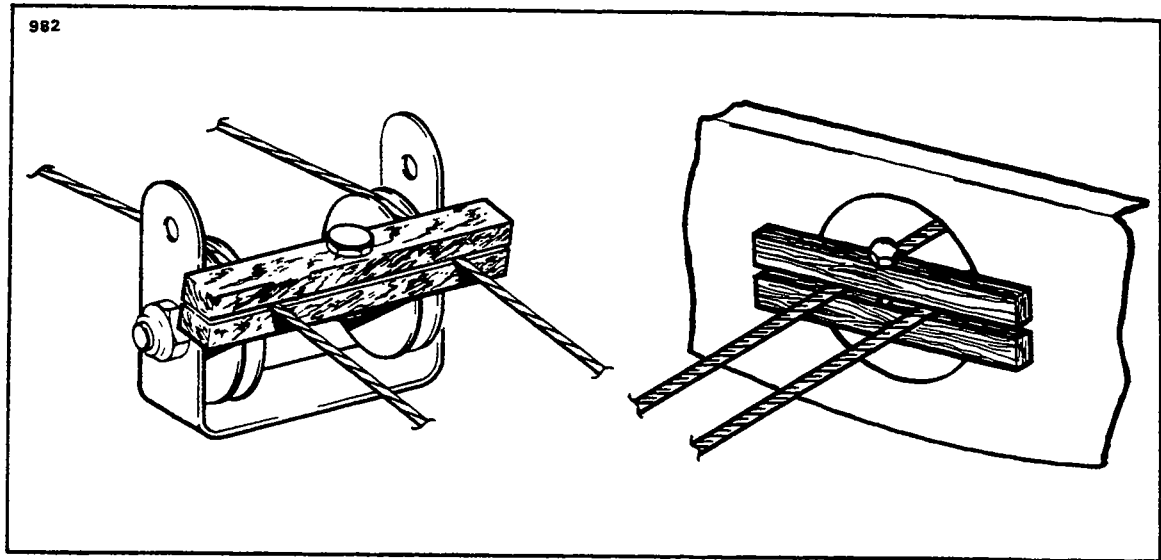

Figure 4-3. Methods of Securing Control Cables
2. Install cable blocks, as illustrated in Figure 4-3, on the stabilator trim control cable at the first set of pulleys forward of the cable turnbuckle to prevent the forward portion of the cable from unwrapping.
4. Install cable blocks, as illustrated in Figure 4-3, on the stabilator trim control cable at the first set of pulleys forward of the cable turnbuckles to prevent the forward cable from unwrapping.